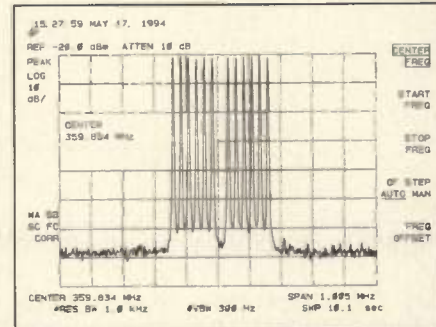

Figure 4(d). Output after feed-forward cancellation.
titone amplification of signals at 358 MHz is shown in Figure 4. The RF input accepts up to 24 carriers which are spaced 25 kHz apart. The input signals, shown in Figure 4(a), are divided in power to provide the drive to the main amplifier, and to the delay line that feeds the two-way combiner. The intermodulation distortion of the main amplifier is
-28 dBc, shown in Figure 4(b). The carriers are canceled in loop 1, and the residual distortion is amplified by the error amplifier. Figure 4(c) shows the distortion that feeds the output directional coupler used for final cancellation. The final output shown in Figure 4(d) is the result of a feed-forward cancellation which exceeds -55 dBc.